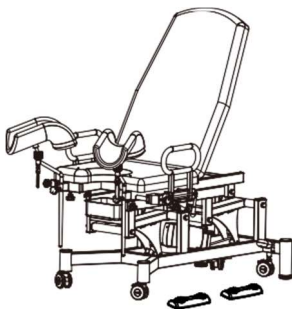

Figure 8
- Step 2: adjust the height of the leg support to a desired height, tighten the knob ②, and pull up the guardrail. (Figure 8)